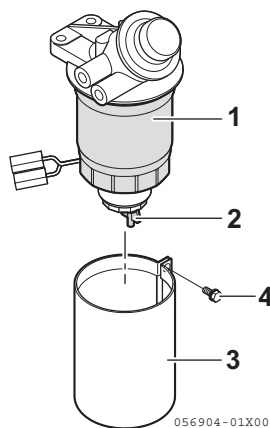

Figure 11
4. Loosen the drain plug (**Figure 11, (2)**) at the bottom of the fuel filter/water separator by turning counterclockwise and drain off any water or sediment.